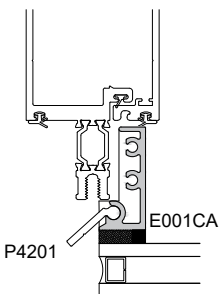

Fig. 76.3
- STEP 3: Rotate cassette frame towards back member framing to align with spacer gaskets. Refer to Fig. 76.3.